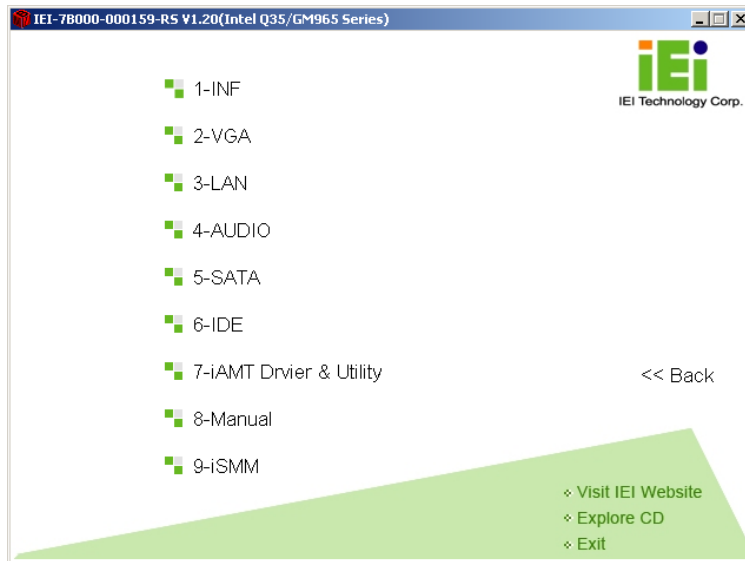

Figure 7-2: Available Drivers
Step 4: A new screen with a list of available drivers appears (**Figure 7-2**).
Step 5: Select the driver to install from the list in **Figure 7-2**. Detailed driver installation instructions follow below.
Step 2: Select **INF** from the list in **Figure 7-2**.
Step 1: Select the **VGA** driver from the list in **Figure 7-2**.